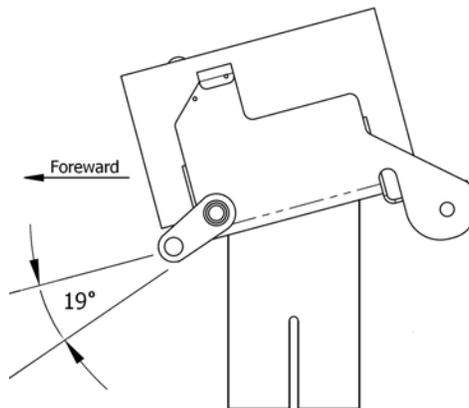

Figure 71-49 Install The Flapper Arm With The Control Tab Pointing Forward
7. Align the valve arm as shown in the Figure 71-49. Insert the valve arm in to the alternate air assembly. The arm must go through the flapper valve.
28. Align the valve arm as shown in the Figure 71-49. Insert the valve arm in to the alternate air assembly. The arm must go through the flapper valve.